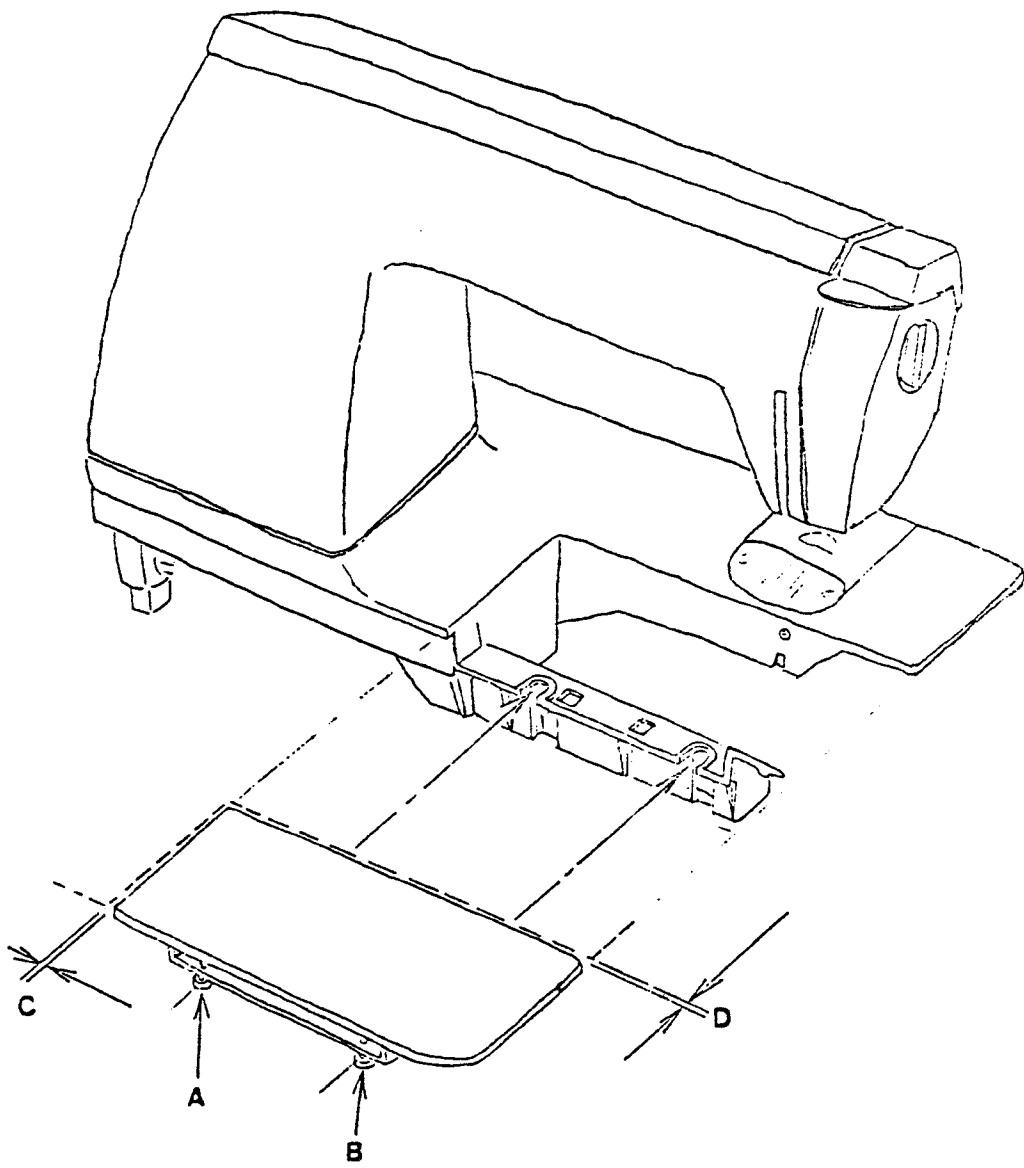

Fig. 36
1. Slide hinge bracket screws (A) and (B) into their corresponding groove in the bed of machine.
2. Adjust bed plate so that its outer edges are flush with bed edges and with clearances (C) and (D) as shown in Fig. 36, and then tighten screws (A) and (B).